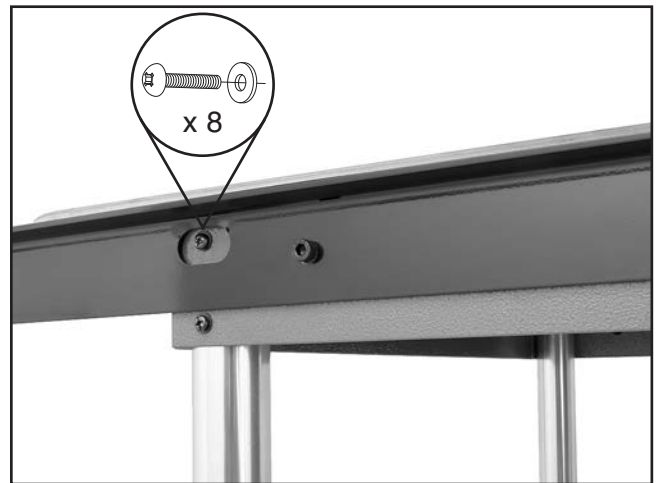

Figure 9. Support leg fastened to main extension table.
- Fasten (2) extension table support legs to main extension table with (8) M6-1 x 12 Phillips head screws and 6mm flat washers, as shown in **Figure 9**.